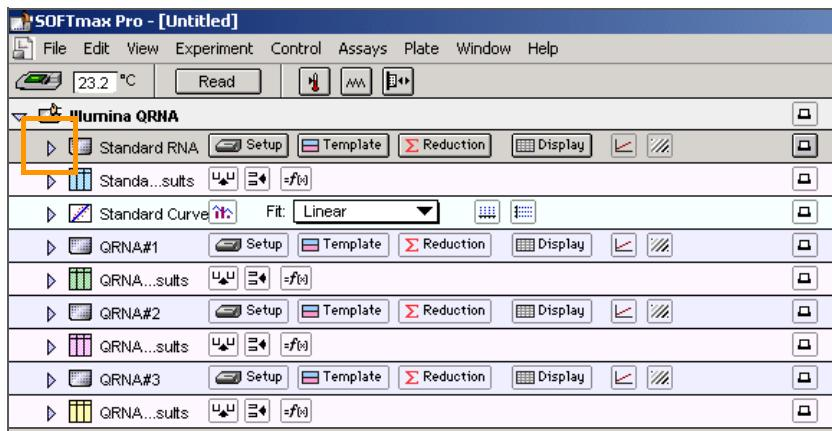

Figure 69 Select the Standard RNA Screen
6. Click the blue arrow next to **Standard RNA** (Figure 69).